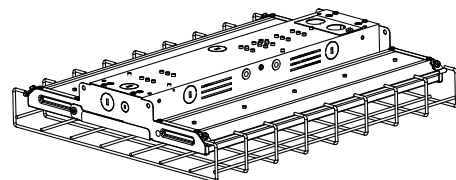

Figure 7
- Align the clips with holes located on the top side of the led channel. Install and torque screws until flush with clips. (Figure 7)